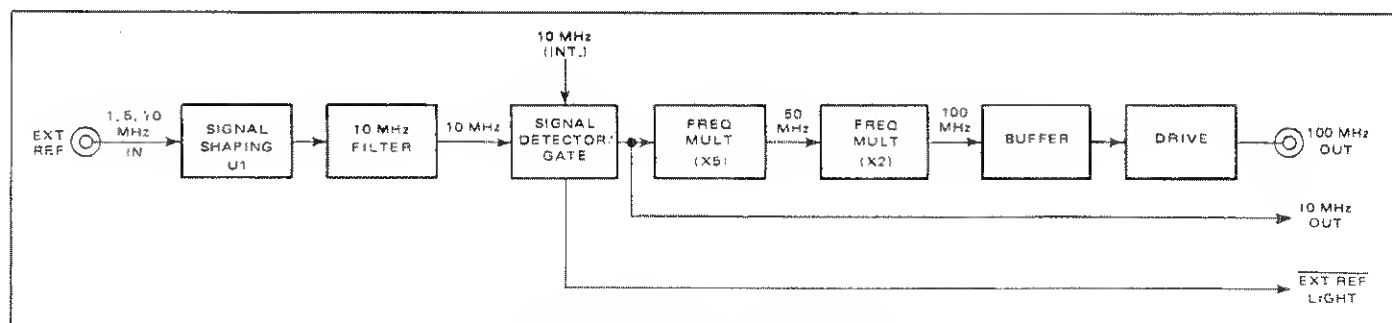

Figure 4.15 - Reference Multiplier Circuit
4.4.5.2 The circuitry, shown in block form in figure 4.15, consists of a signal shaping circuit, 10 MHz filter, signal detect/gate circuit, a 5 times frequency multiplier, a frequency doubler, a buffer and a drive circuit.